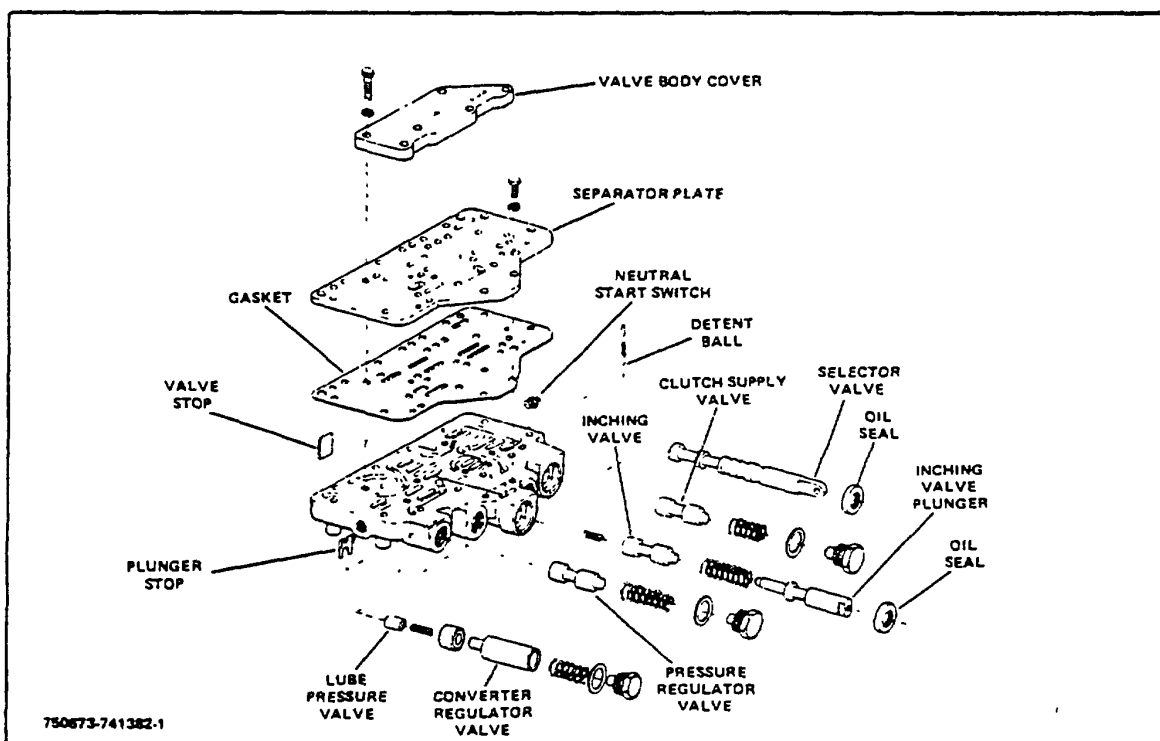

Figure 4-1. Control Valve
3. Remove screws and remove valve body cover. (See Figure 4-1).